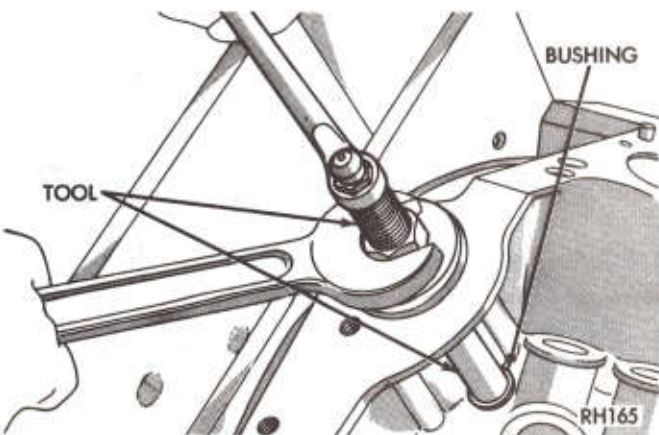

Fig. 39—Burnishing Distributor Driveshaft Bushing
(3) As the burnisher is pulled through the bushing by tightening the puller nut, the bushing is expanded tight in block and burnished to correct size, (Fig. 39).